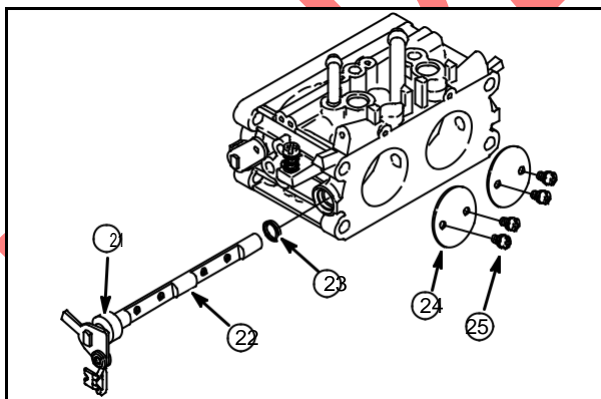

Fig. 66
Mark throttle plates (24) before removing to ensure reinstallation in the original position, **Fig. 66.**